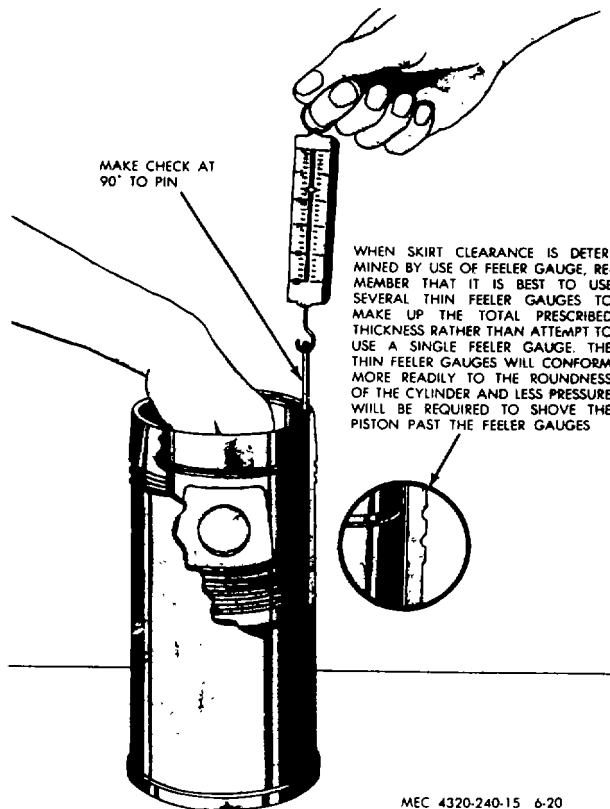

Figure 6-20. Fitting Piston
(1) Clean all parts in an approved cleaning solvent; dry with clean dry, compressed air.
(2) Inspect pistons, piston pins, bearings, and connecting rods for cracks, distortion, scoring, pitting or other defects. Replace piston rings and damaged or defective parts.
(3) Refer to figure 6-20 and check piston fit using a piece of 0.015 inch feeler stock cut 1/2 inch wide. Dress the edge of the feeler stock with a stone to remove burrs and feathered edges. The block and pistons must be at room temperature when piston fit is tested. Position the feeler stock midway between the piston pin bosses. With the piston and feeler stock inserted about 2 inches into the sleeve the feeler stock must pull from the block with 5 to 10 pounds pull. If the feeler stock does not offer enough resistance, perform same test with a new standard size piston. If sufficient resist